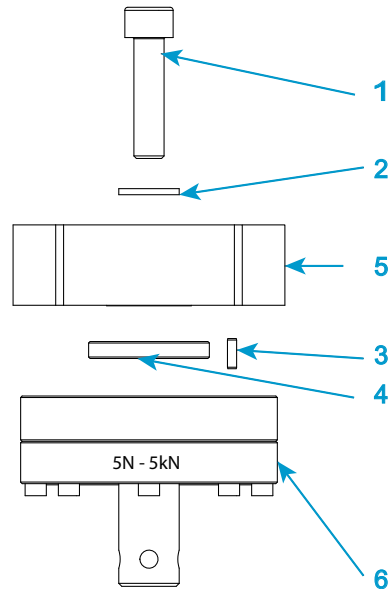

Figure 17. Install a 2530 series load cell - capacities 5 N through 5 kN
Legend for Figure 17
1. Refer to Figure 17 on page 84 and its associated legend.